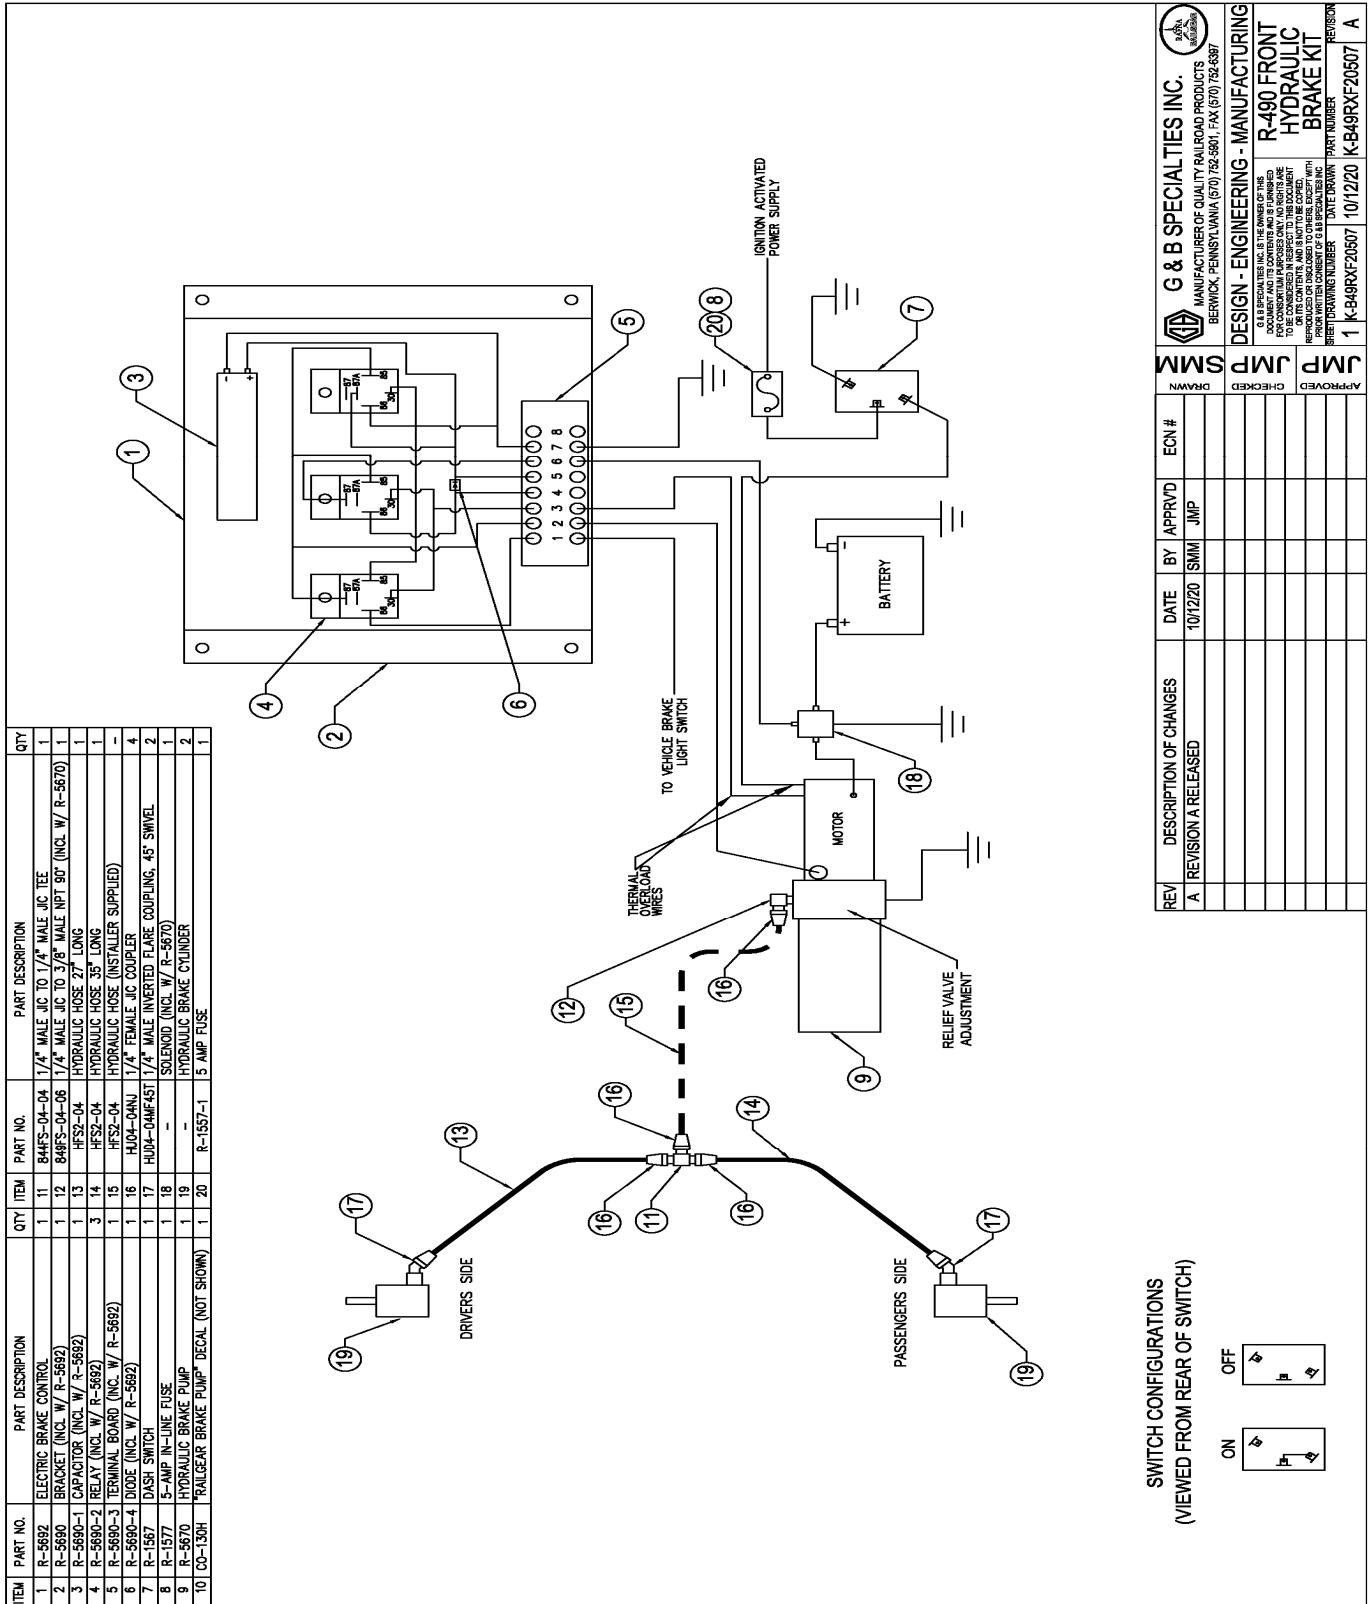

Figure 5: Brake Pump Hydraulic/Wiring Schematic
11. Using suitable 14 gauge wire, cable loom, connectors, solder and heat shrink tubing: (Figure 5)
14. Install/Fabricate the hydraulic hoses/fittings/adapters as shown on the hydraulic schematic. (Figure 5/6)